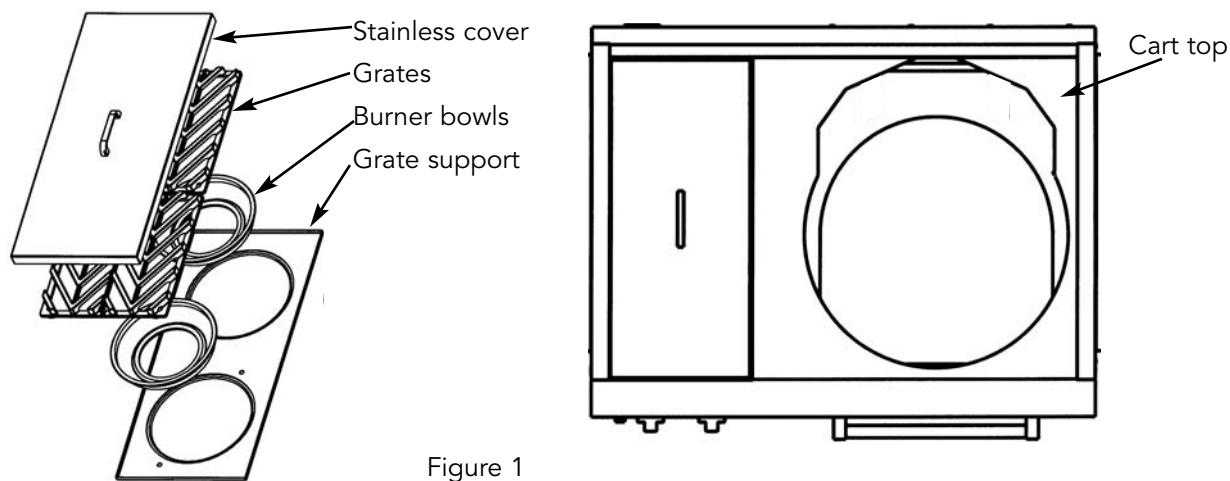

Figure 1
2. Remove the top from the cart. (See Figure 1)